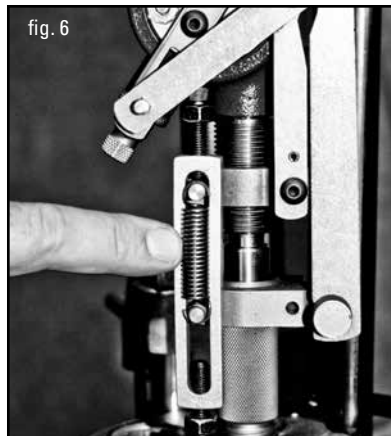

fig. 6
Step 6: Lower the ram and replace the vertical spring on the hex spring mount (fig. 6).